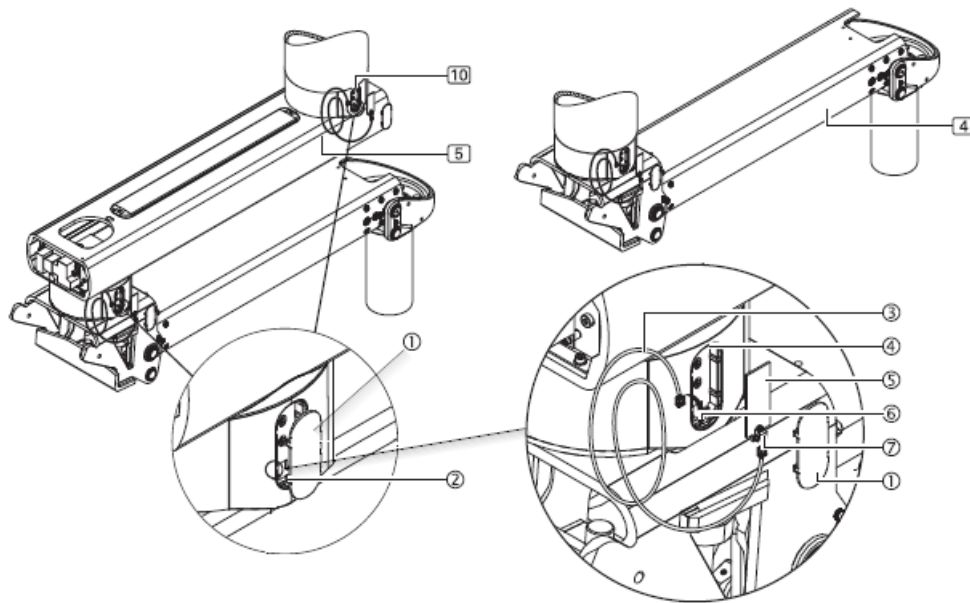

Fig. 36 Fitting the brake indicators
- Route the power cable ① (in a spiral coiled tube if necessary) through the pendant system and into the interface plate as shown in Figure 36.